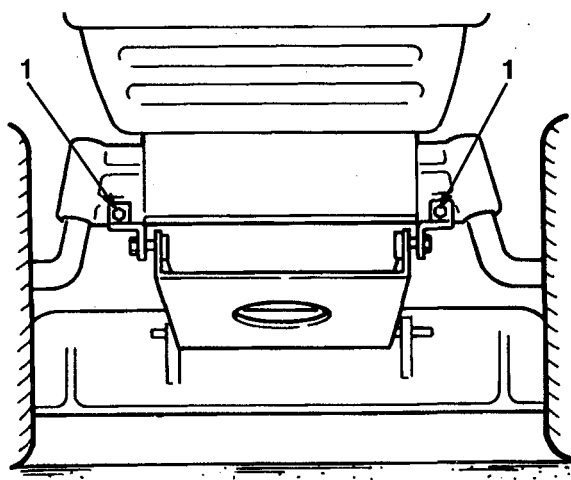

Figure 41
7. Remove the bolts and lock nuts and pull the two mower pivot mount brackets down from the front axle (Fig. 41).